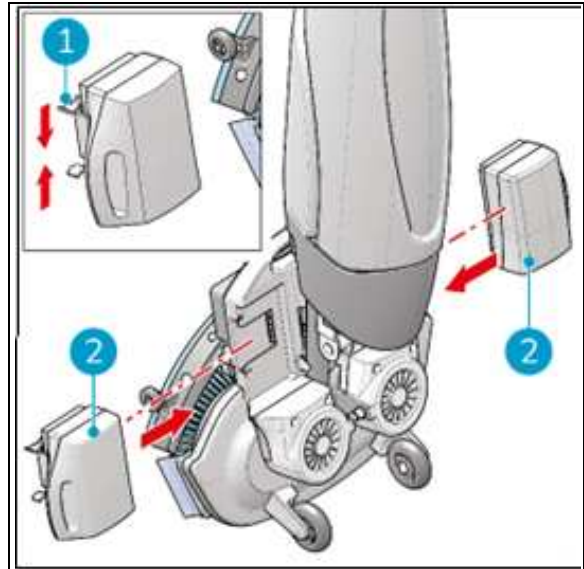

Figure 26
3. While pressing both plastic pins inwards (Figure 26, pos 1), pull each battery pack away (Figure 26, pos 2).